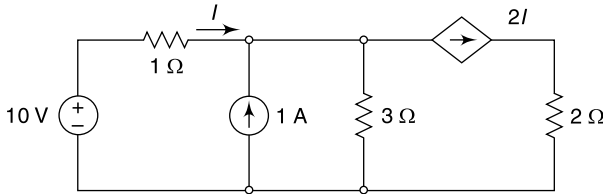

Fig. 4.160 Circuit of Ex. 4.129
4.129 In the network shown in Fig. 4.160, find the value of the dependent source using (i) nodal method and (ii) superposition theorem.